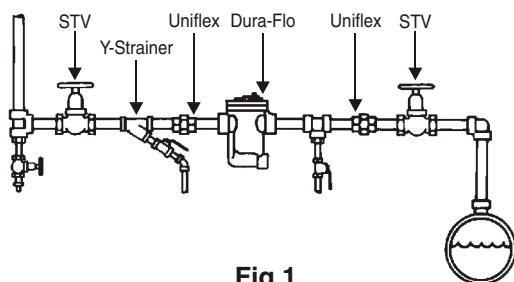

Fig.1
3. All models should have a strainer installed ahead of trap (Fig.1).
4. Union fittings (Uniflex) and shut off valves (STV) should be installed on both sides of trap for ease of servicing and trap testing (Fig.1).
5. A test and pressure relief valve should be installed to assure relief of internal pressure prior to servicing and as a visual indication of trap operation (Fig.1).